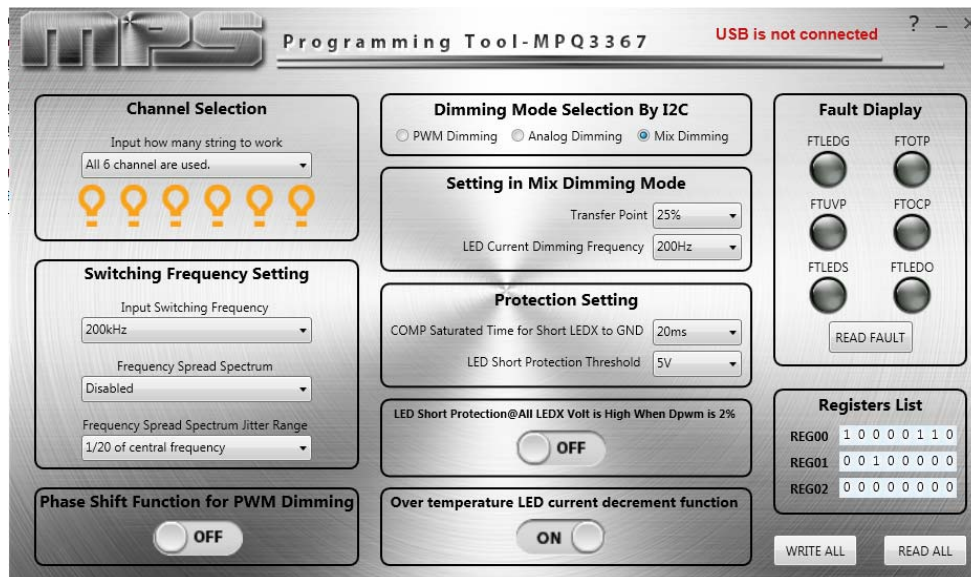

Figure 1: MPQ3369 GUI Interface
- a. Check that the I²C kit is communicating with the computer. If the message “USB is not connected” appears on the GUI, then the I²C kit cannot communicate with the computer (see Figure 1). Otherwise, communication should be functioning properly.